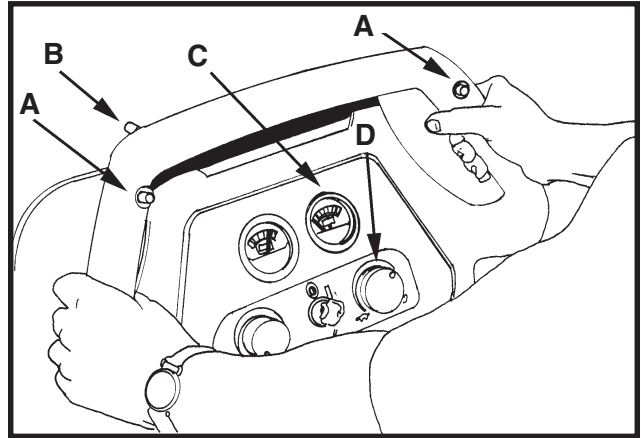
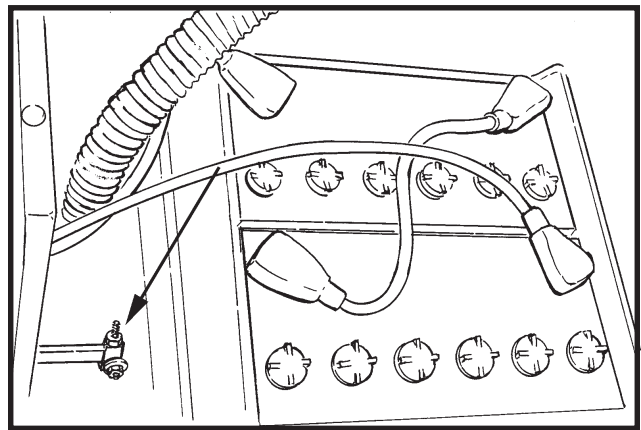

Figure 18
Figure 19
5. Hold the control handle as shown in figure 18.
6. When either the right or left forward/reverse switches (figure 18, item A) are pushed in, the machine will go forward.
7. Control the speed of traverse by using the speed control knob. (Figure 18, Item D)
9. To reverse the machine, push in the white reverse switch (figure 18 item B) and either the right or left forward/reverse switch (figure 18 item A) at the same time. **NOTE: Anytime the machine is reversed, the squeegee must be raised to either of the two up positions. This will prevent damage to the squeegee.**
2. Turn the brush lift spring lock nut (figure 19) clockwise for more pressure and counterclockwise for less pressure. Use the brush pressure meter (figure 18, Item C) to determine the best setting. The needle should stay in the green area.